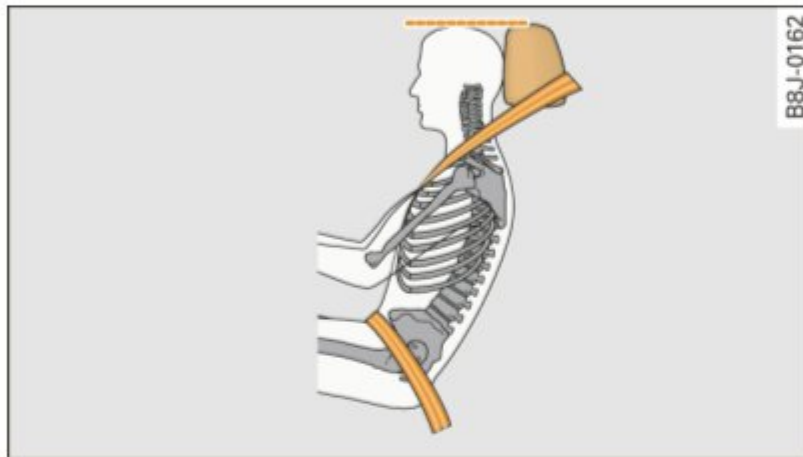

Fig. 145 Correctly adjusted head restraint viewed from the side
- Adjust the head restraint so that the upper edge of the restraint is level with the top of your head, but no lower than eye level and so it is as close to the back of your head as possible ⇒ fig. 145.